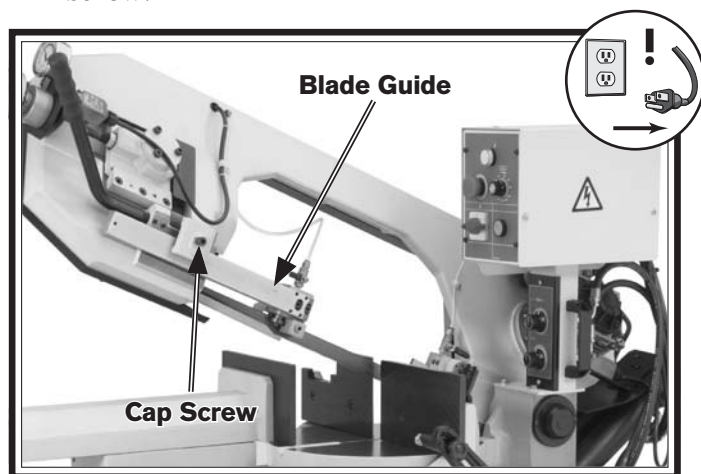

Figure 31. Blade guides.
2. Loosen the cap screw in **Figure 31** and slide the blade guide to approximately  $\frac{1}{4}$ " away from the workpiece, then re-tighten the cap screw.